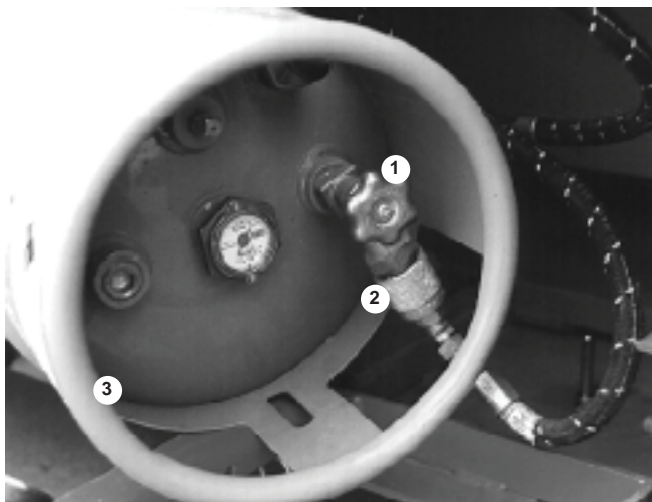

Figure 11.11 - LPG Fuel Tank Replacement
To replace an LPG tank: Close the valve (1) (see figure 11.11) Manually disconnect the fuel hose at the knurled ring (2) and lift the tank (3) out.